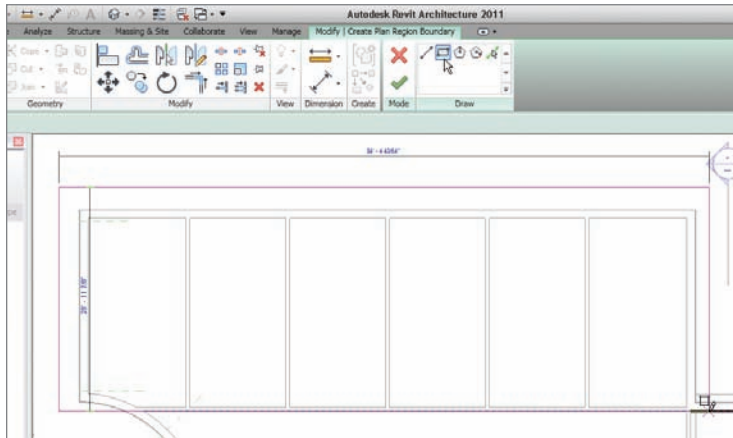

FIGURE 9.15 Defining the limits of the plan region by drawing a rectangle around a specific area
4. On the Draw panel, click the Rectangle button, as shown in Figure 9.15.
5. Pick a rectangle around the north portion of the west wing, as shown in Figure 9.15.